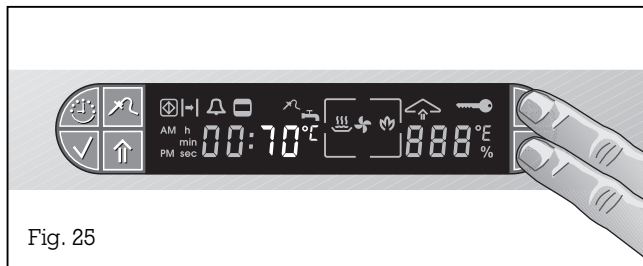

Fig. 25
- You can enter a value between 1 °C and 99 °C (see table) by pressing the + and - keys (Fig. 25).